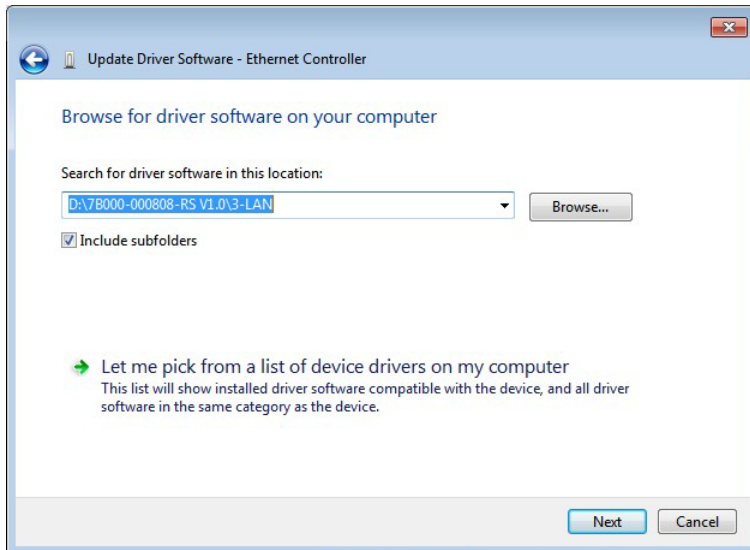

Figure 7-16: Locate Driver Files
Step 8: Select “Browse my computer for driver software” and click **BROWSE** to select the driver location (**Figure 7-16**).